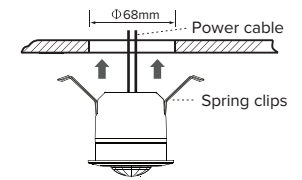

FIG.8
3.4.4 Close up two spring clips on detector and insert detector into the drilled hole on ceiling (See FIG.8).